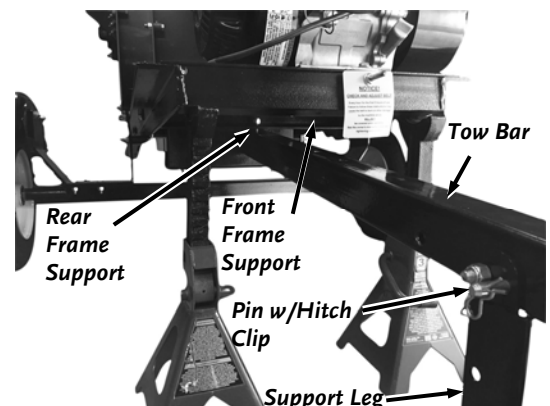

Figure 3
2. Position the Support Leg in the down position and secure using the Pin and Hitch Clip (**Figure 3**).